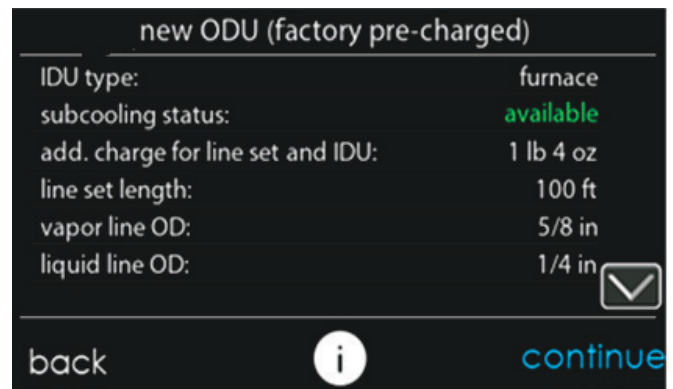
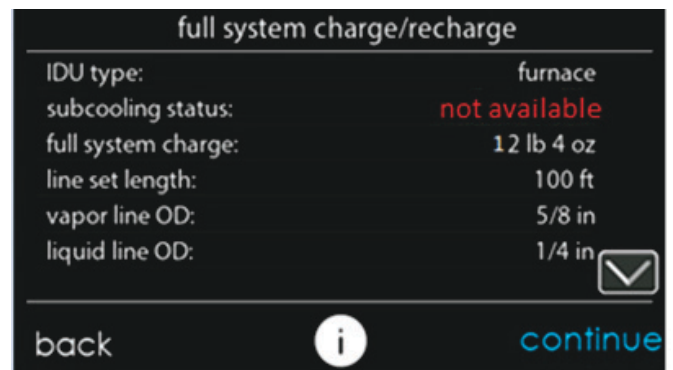

Fig. 14 – New ODU (factory pre-charged) - Subcooling Available
Fig. 15 – Full System Charge/Recharge - Subcooling Unavailable
- If indoor and outdoor conditions are in range, subcooling status will be green and available (Fig. 14). If conditions are outside the range, subcooling status will be red and unavailable and will require a partial weigh-in of charge (Fig. 15). Both "new ODU (factory pre-charged)" and "full system charge/recharge" modes will allow the user to move forward to start the system regardless of whether subcooling charging is available. Lineset configuration and climate zone / odu material type can be changed by selecting appropriate line if needed. For "new ODU (factory pre-charged)" record the ADDITIONAL charge amount listed. For "full system charge/recharge", record the FULL system charge amount listed. Press continue.